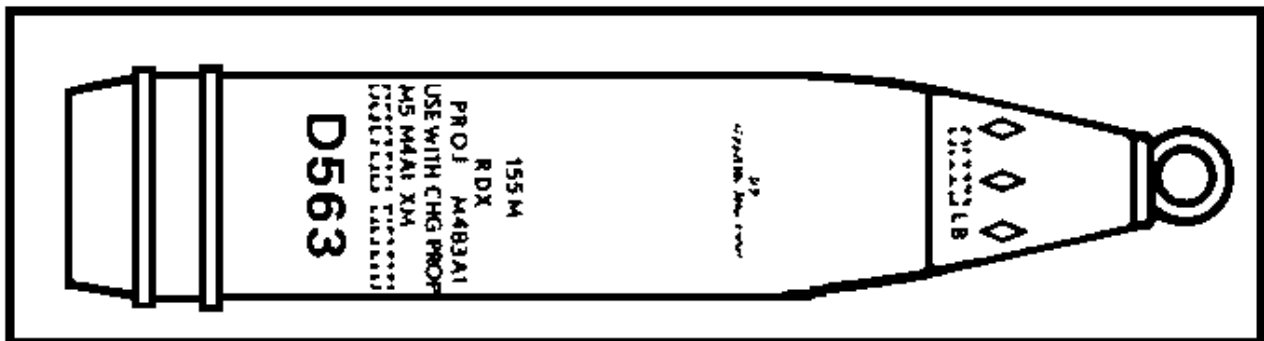

Figure 15. M483A1 projectile.
(7) Projectile, 155-mm, ICM, M483A1. This projectile is the latest ICM of the dual-purpose variety--antipersonnel and antimateriel. These high fragmentation, base-ejection type projectiles consist of a steel body containing an expelling charge and 88 shaped charge grenade submissiles. In the fire-for-effect mode, the expelling charge ejects the 88 submissiles from the projectile during flight. The grenades orient themselves in the air stream and activate upon ground or target impact. A shaped charged jet is expelled downward while the body bursts into a large number of high-velocity fragments. The jet can penetrate 2.75 inches of armor plate. In the registration mode, the expelling charge is removed and a projectile spotting charge is attached to the time fuze and installed in the projectile. This will cause the M483A1 projectile to detonate all of the 88 grenades inside the projectile, causing high fragmentation in the same manner as a standard HE projectile. This projectile weighs 102 pounds and uses only the M577 fuze (Figure 15).